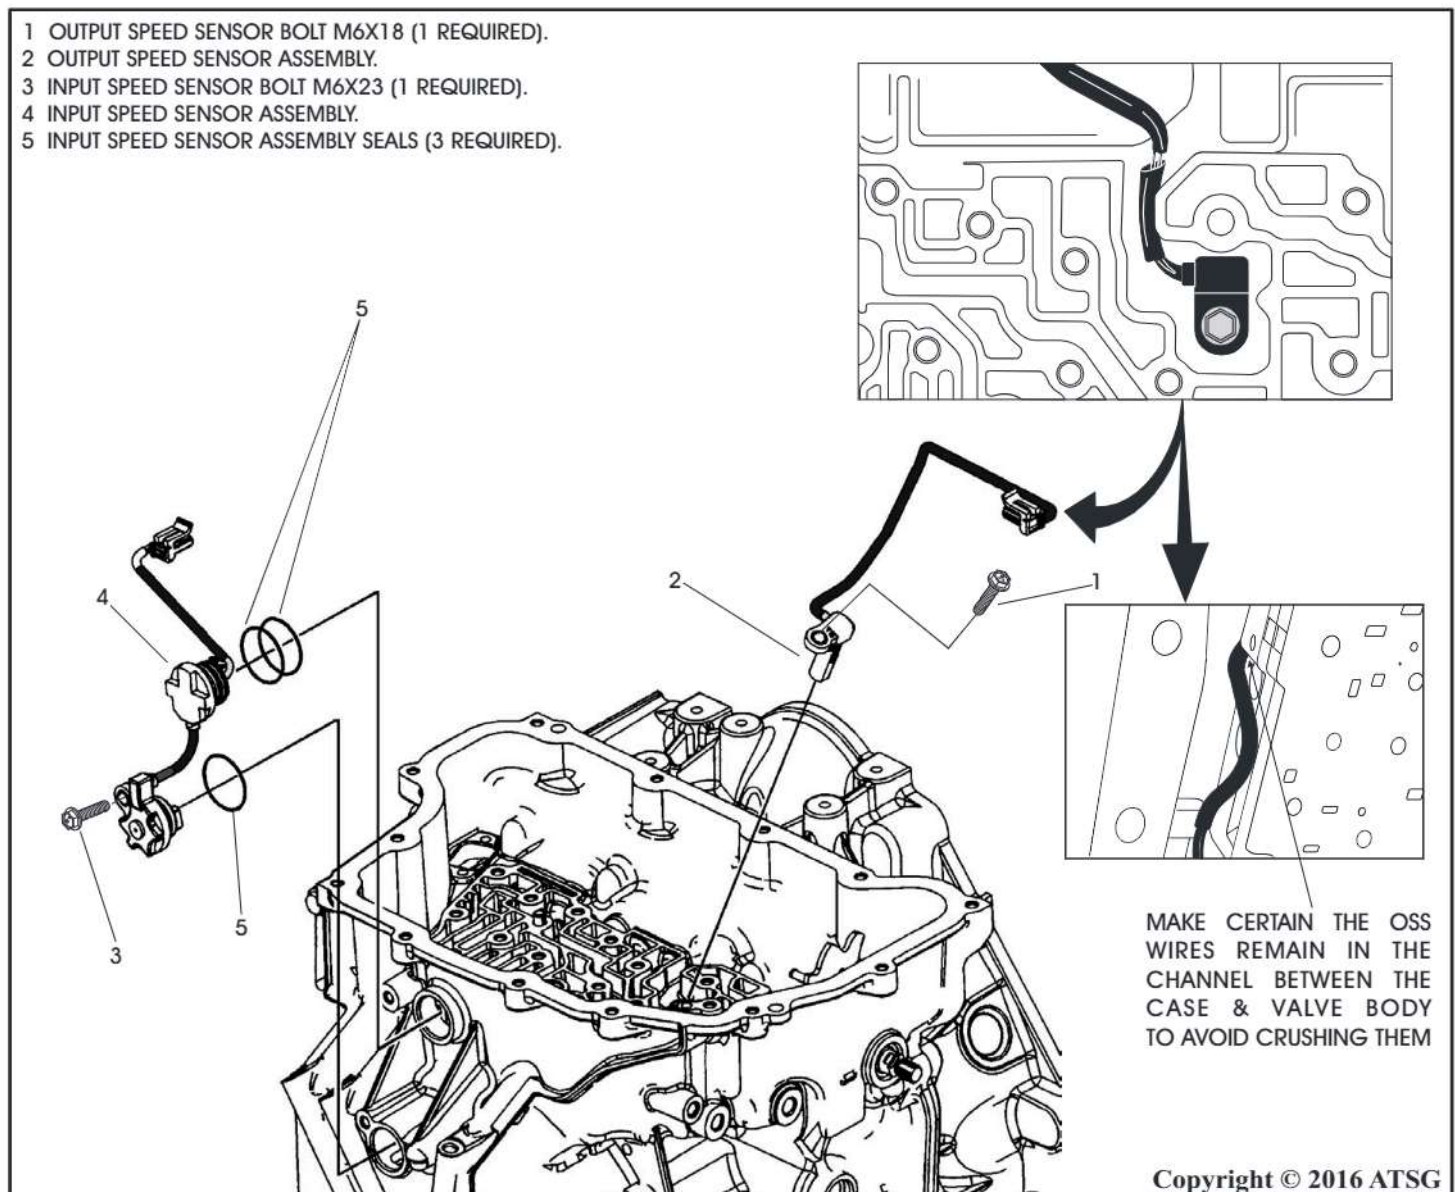

Figure 171
95. Install three new o-ring seals on the input speed sensor assembly as follows, two on the sensor end and one on the pass-through connector end as seen in Figure 171 and lubricate with transmission assembly gel.
96. Install the input speed sensor assembly into the transmission case as seen in Figure 171, taking care to route the sensor wiring so it is in position to connect to the transmission control module once it is installed.
98. Install the output speed sensor assembly into the position shown in Figure 171.
- Note:** Be certain to route the output speed sensor wiring as shown in Figure 171 to avoid wire damage when the control valve body is installed.